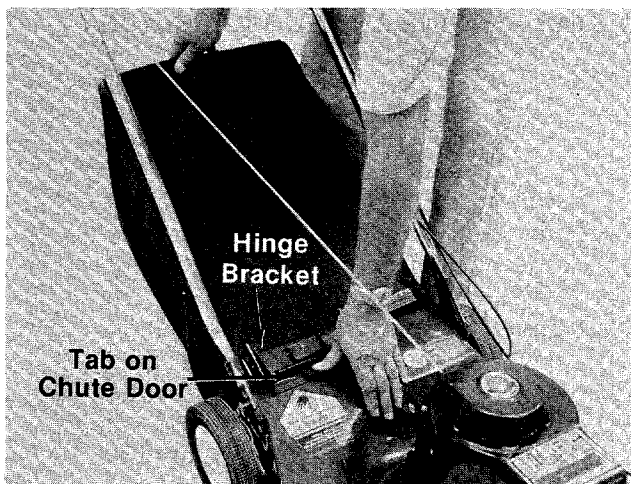

FIGURE 16.
3. Push the tab on the chute door. The grass catcher frame will snap into place, secured by the chute door. See figure 16.
To remove the grass catcher, press the tab on the chute door and slip the grass catcher off the unit. See figure 16.